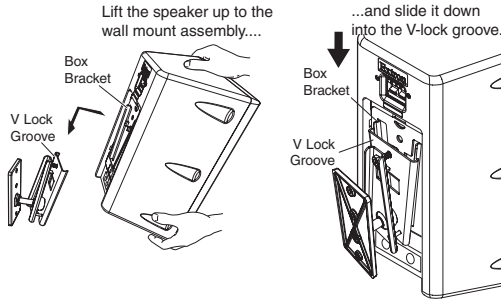

Figure 5 — Slide the speaker down onto the wall mount assembly
1. Carefully lift the speaker above the wall mount assembly and gently slide the speaker box bracket down into the V lock groove (see figure 5) until it locks into place.